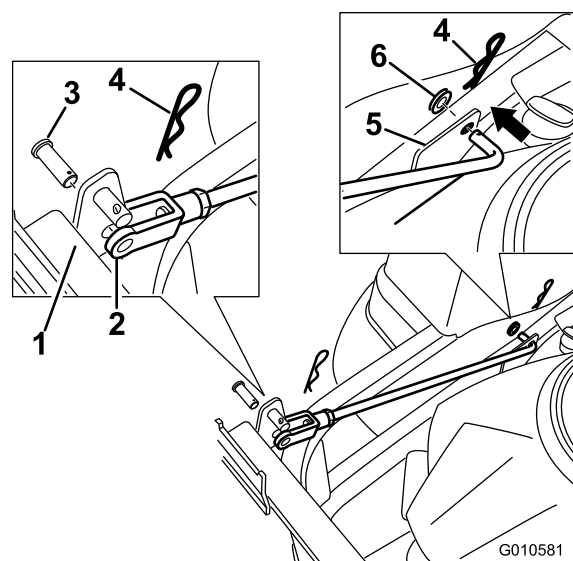

Figure 7
7. Insert the bent ends of the rod into the bagger frame as shown in Figure 7. Secure the end of the rod with a washer and hair pin.
- D. Secure the clevis end of the rods to the bagger frame using a clevis pin and hair pin cotter (Figure 7).